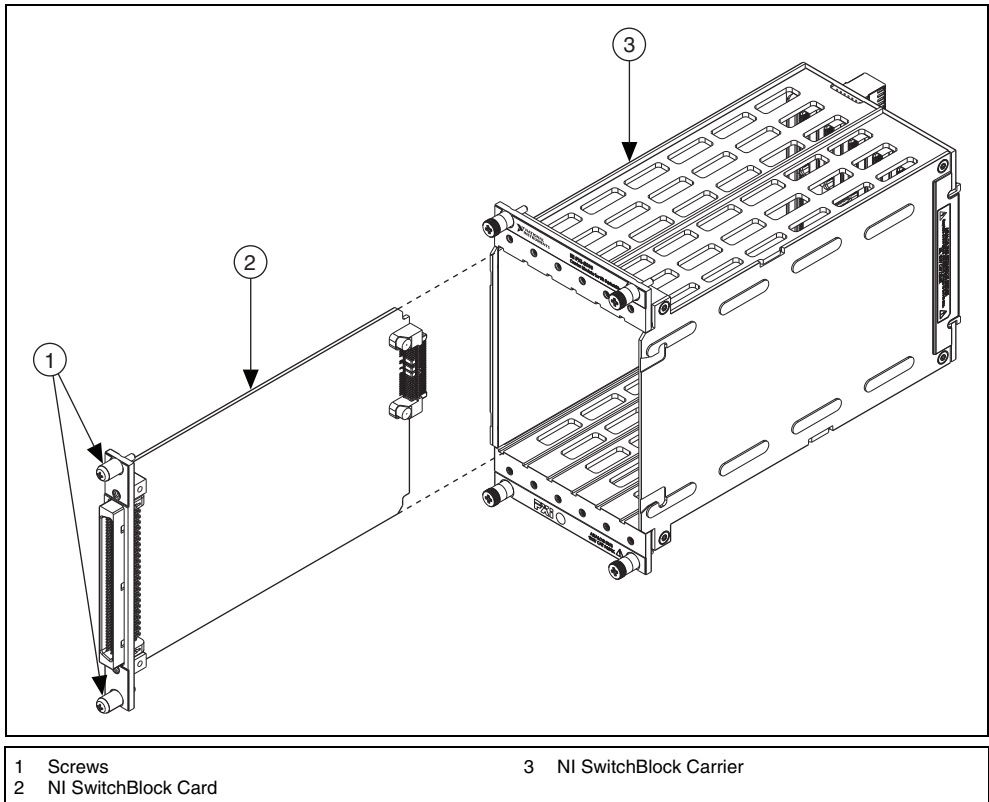

Figure 3. Installing an NI SwitchBlock Card
Refer to Figure 3 and complete the following steps to install an NI SwitchBlock card.
6. Slide the card into the empty slot, ensuring that the card engages with the card guides in the carrier, as shown in Figure 3. When you begin to feel resistance, continue to push the card into the slot until it clicks into place and the card front panel is even with the front panels of adjacent cards or filler panels.